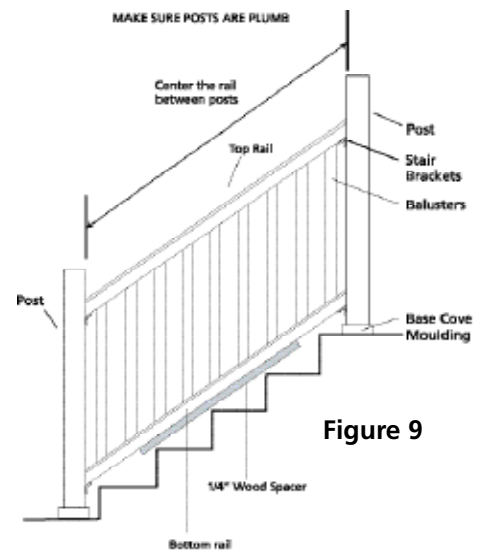

Figure 9
13. Lay the bottom rail with baluster holes upward, onto a 1/4" wood spacer located between the posts (Fig. 9). This provides the rail spacing between the rail and stair treads and helps to stabilize the setup.
16. Ensure that the base cove moulding is in place at the base of the posts (Fig. 9).